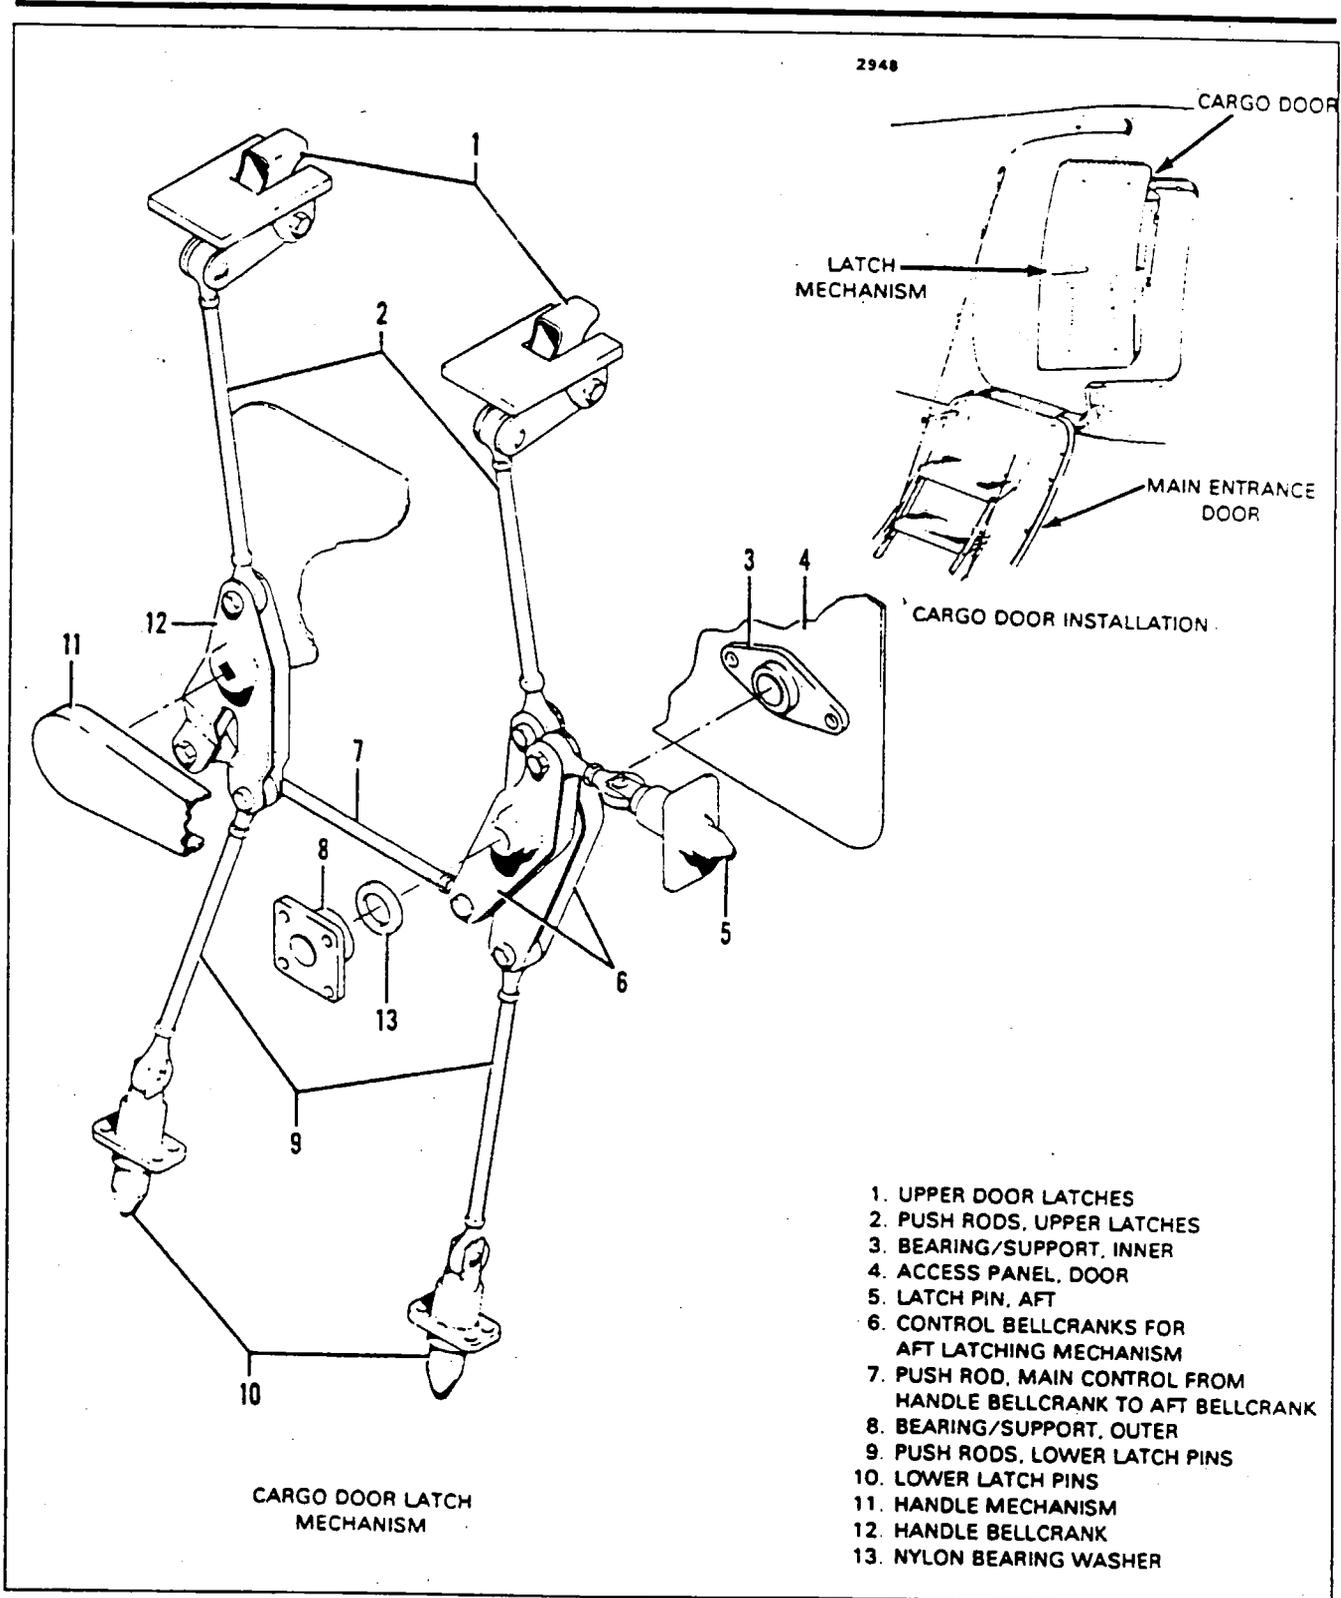

Figure 52-4. Cargo Door Installation
#### **REMOVAL OF CARGO DOOR. (Refer to Figure 52-4.)**
#### **INSTALLATION OF CARGO DOOR. (Refer to Figure 52-4.)**
**REMOVAL OF CARGO DOOR LATCH ASSEMBLY.** (Refer to Figure 52-4.)
**INSTALLATION OF CARGO DOOR LATCH ASSEMBLY.** (Refer to Figure 52-4.)